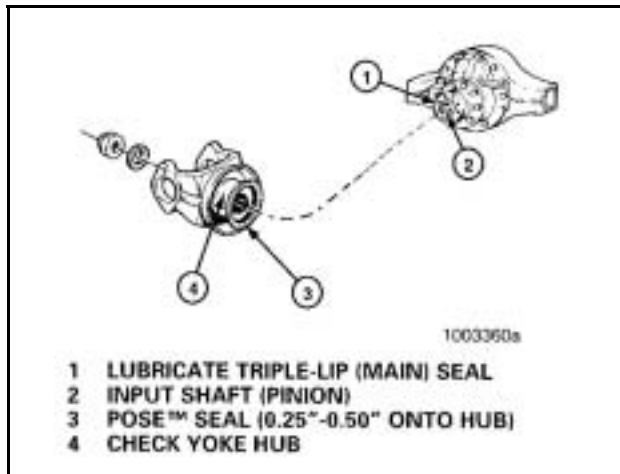

Figure 78
- b. Partially install the POSE™ seal onto the yoke to ¼ inch – ½ inch as shown in **Figure 78**.